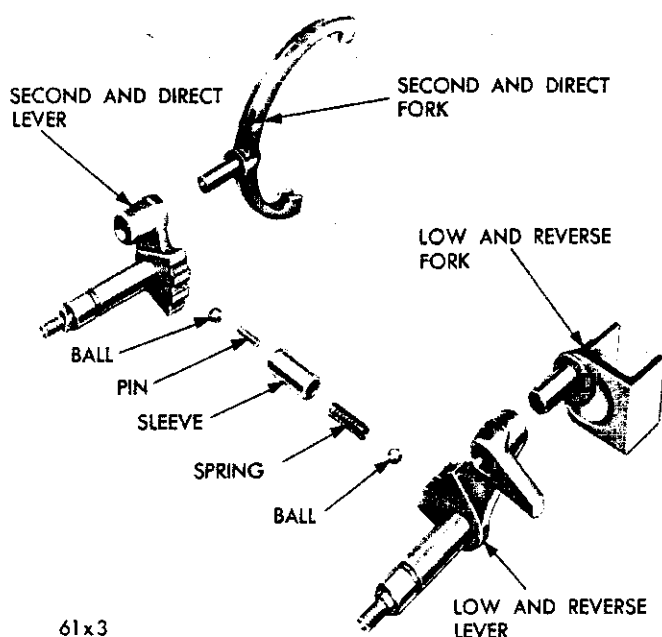

Fig. 7—Gearshift Forks and Shafts
(1) If necessary, remove both of the lever shaft seals, using Tool C-3638. (Fig. 7)
(2) Using a small punch, remove the low and reverse gear lever shaft tapered lock pin by driving it toward the top of the transmission case.
(3) Remove the second and third gear lever shaft in the same manner.
(4) Remove the lever shafts from the transmission case, taking care not to lose the spring loaded detent balls.
(5) Remove the interlock sleeve, springs pin and detent balls.